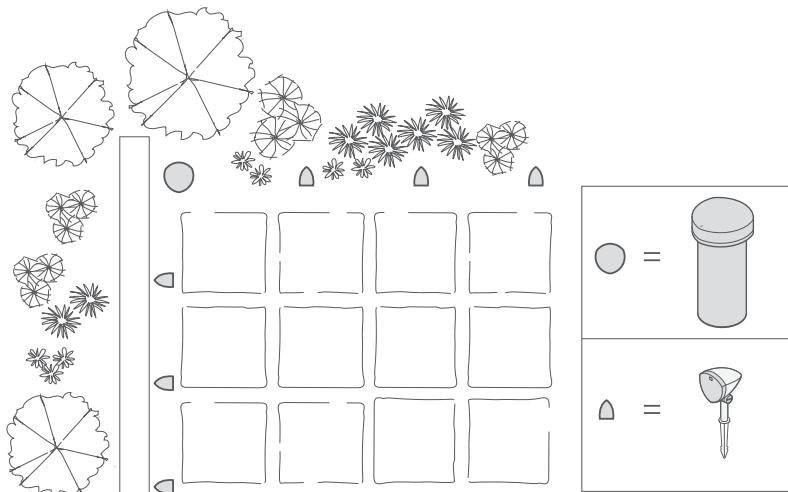

Figure 1
- Place the subwoofer as close to the center of the satellites as possible for optimal frequency balance between the subwoofer and satellites (see the example layout in Figure 1).